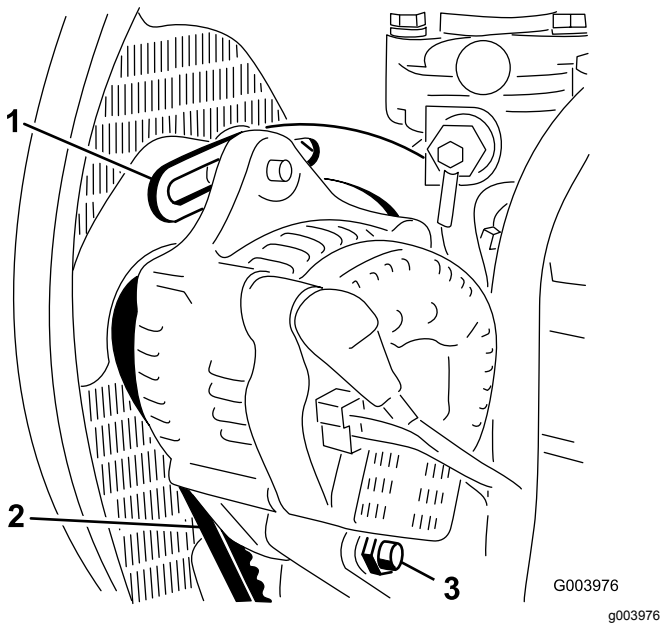

Figure 54
2. Check the tension of the alternator belt by pressing it (Figure 54) midway between the alternator and the crankshaft pulleys with 10 kg (22 lb) of force.
3. Loosen the bolt securing the brace to the engine (Figure 54), the bolt securing the alternator to the brace and the pivot bolt.